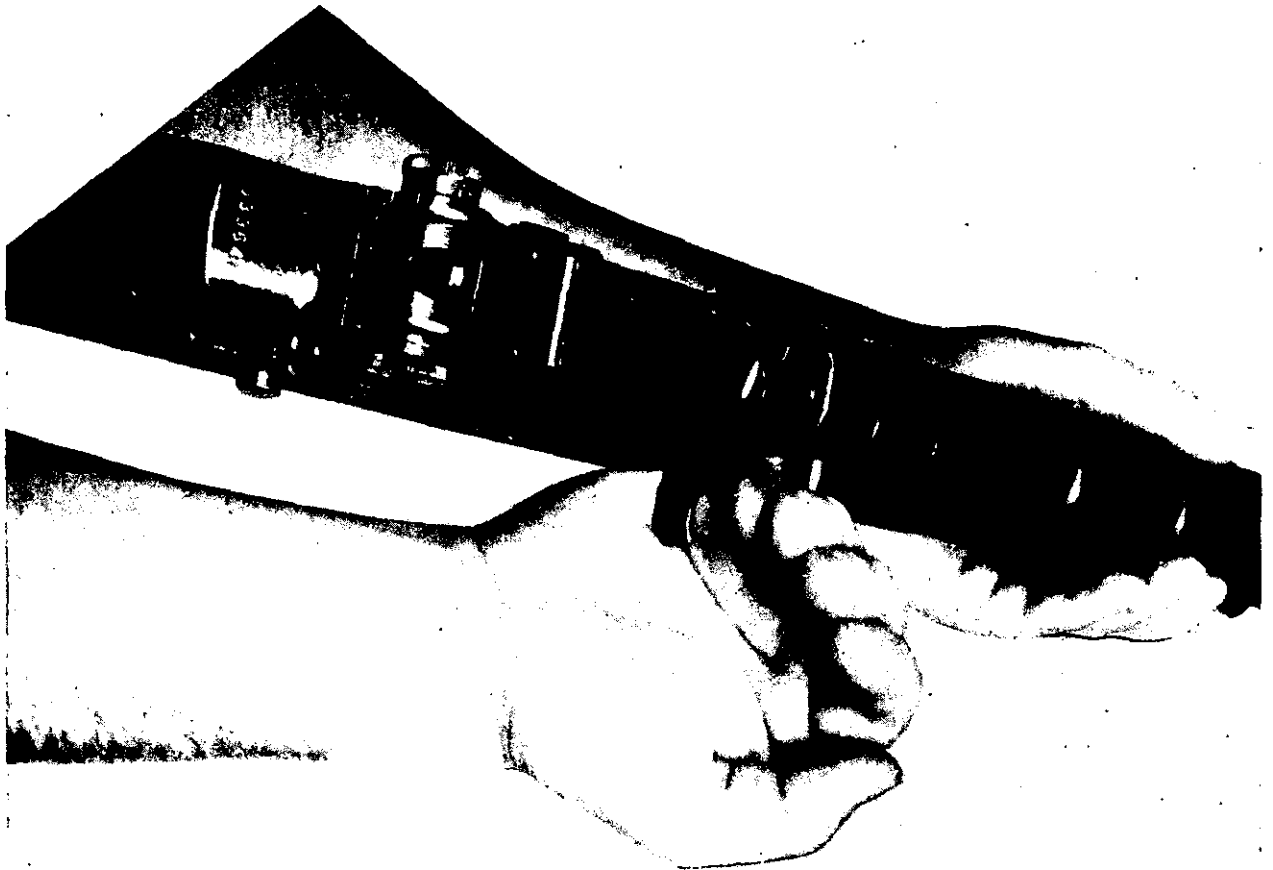

Figure 39. Applying immediate action.
a. The first phase is taught as a drill so that the rifleman learns to perform it quickly and instinctively without thought as to the cause of the stoppage. To apply the first phase, with the right hand, palm up, pull the operating rod handle all the way to the rear. Release it, aim and attempt to fire. The palm is up to avoid injury to the hand in event of a cookoff or hangfire (fig. 39).
- (1) **TAKE** the rifle from the shoulder.
- (2) **PULL** the operating rod handle slowly to the rear.
- (3) **LOOK** in the receiver.
- (4) **LOCATE** the stoppage by observing, as the operating rod handle is pulled to the rear, what is in the chamber, and what has been ejected.
- (5) **REDUCE** the stoppage and continue to fire.